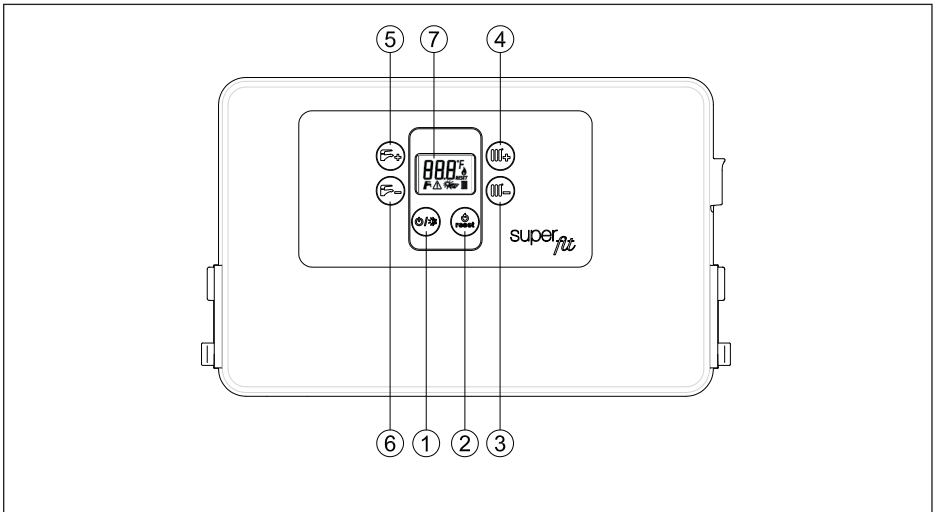

Figure 1. Control panel
Press key (1) (Figure 1) to operate your boiler in “SUMMER” mode and see only the tap symbol () continuously shown on the display. At this mode combi boiler only operates for the domestic hot water (DHW) system. The automatic ignition system lights the burner every time if there is a demand for DHW. The existence of the flame is shown with a flame symbol () on the display. During DHW usage, the tap symbol () on the display blinks.
In order to operate the combi boiler in “WINTER” mode, press key (1) (Figure 1) and see tap symbol () and radiator symbol () continuously shown on the display. At this mode combi boiler operates for the domestic hot (DHW) and heating (CH) systems. The automatic ignition system lights the burner every time there is a demand for both. The existence of the flame is shown with flame symbol () on the display. In this case, the tap symbol () on the display blinks when system operates for DHW and radiator symbol () blinks when system operates for CH.
In order to operate the combi boiler in “ONLY HEATING” mode, press key (1) (Figure 1) and see only radiator symbol () continuously shown on the display. At this mode combi boiler only operates for heating (CH) system. The automatic ignition system lights the burner every time there is a demand for CH system. The existence of the flame is shown with flame symbol () on the display. In this case, radiator symbol () blinks when system operates for CH.
- When electricity is supplied to the appliance, “OFF” word can be seen on the display. Pushing mode button **(1)** (Figure 1) leads to change the operating mode, every push changes mode sequentially between SUMMER-WINTER-ONLY HEATING-OFF.
- Check that there are no flashing numbers on the display **(7)** (Figure 1) (also see Section 2.8). If code E04 appears on the display **(7)** this denotes that there is no water in the boiler. Consequently, fill the system as described in Section 2.6.
The heating temperature is regulated by using keys **(3)** and **(4)** (Figure 1).
DHW temperature is regulated by using keys **(5)** and **(6)** (Figure 1).
This paragraph contains a list of error codes that the boiler may generate on the display **(7)** (See Figure 1) together with the relative indications and the operations that the user can carry out to reset the boiler.
- Turn off and then turn on the appliance using button **(1)** (Figure 1) on the control panel. Let the system ignite by itself, if **E01** error remains, retry to turn off and turn on the appliance once again. This action is taken in order to be sure if the gas in the pipes reached to the appliance.